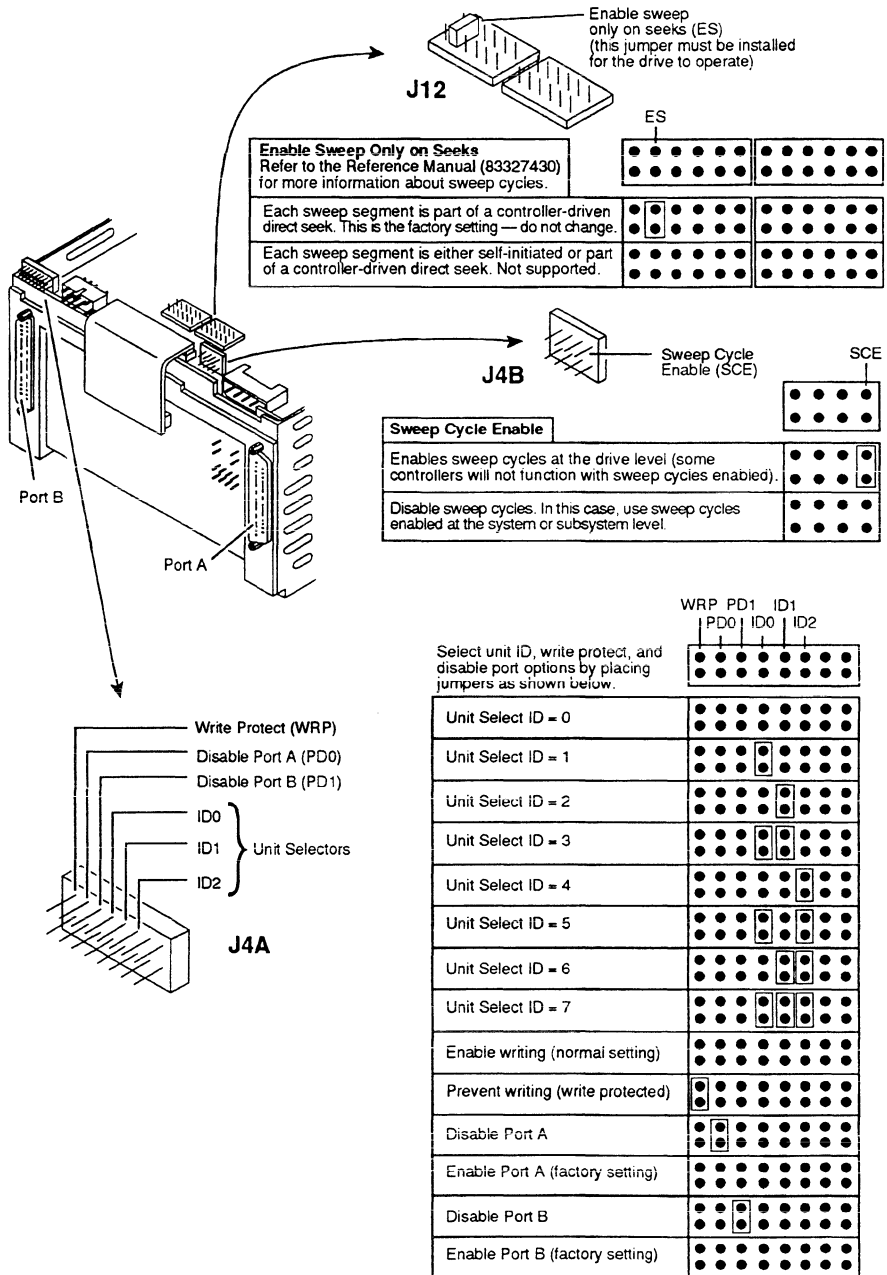

Figure 7. Control board jumpers
- Figure 7—identifies jumpers and gives their locations on the control board. It also lists the possible settings for normal drive operation for jumpers on the control board.